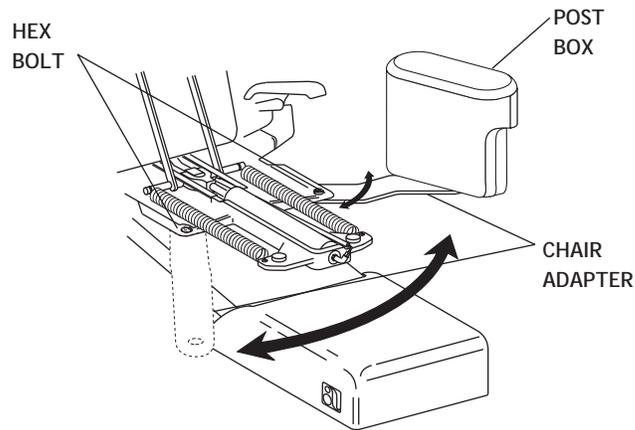

Figure 10. Left/Right Chair-Mount Conversion
7. Unscrew and remove the hex-head bolt from the chair adapter (see Figure 10). Pivot the chair adapter post and the post box to the other side of the chair. Align the hole in the chair casting with the hole in the adapter post.